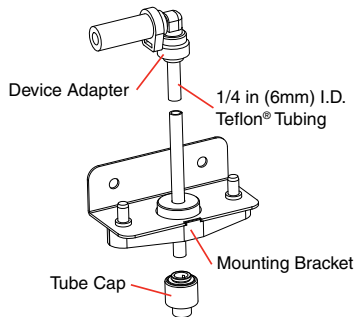

Figure 6. Remote Gassing Port
- d. Remote Gassing Port (Figure 6).